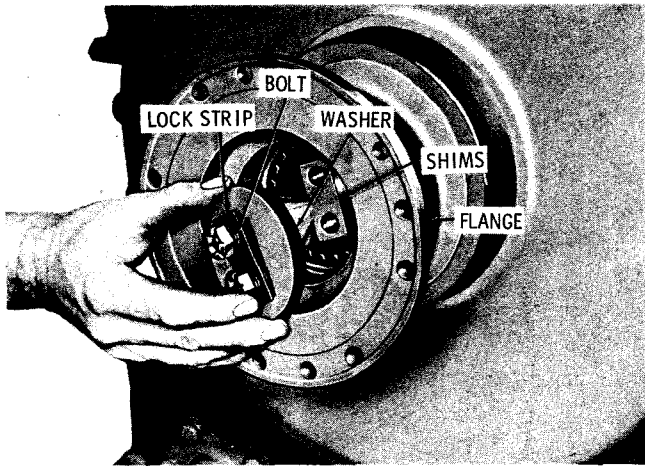

Fig. 7-110. Installing input flange retaining parts
(29) Install the input flange, shims, washer, lockstrip, and bolts. Refer to paragraph 4-8b for installation and shimming instructions (fig. 7-110).
(30) Install the brake band and support assembly and secure it with four 5/8-18 x 2-inch